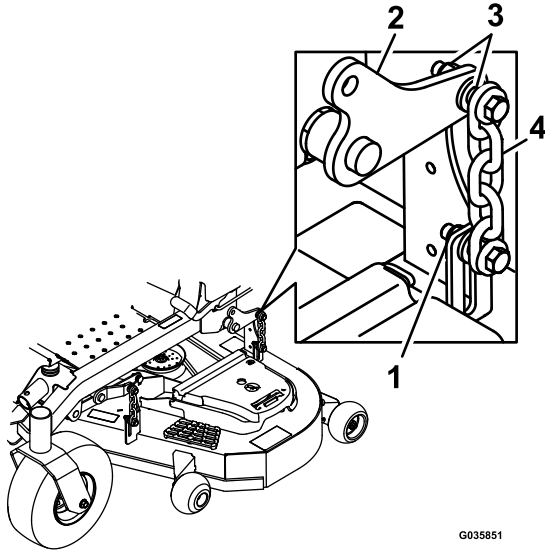

Figure 78
14. Loosen the locknuts (Figure 78) on all 4 corners and ensure that the mower deck is sitting securely on all 4 blocks.